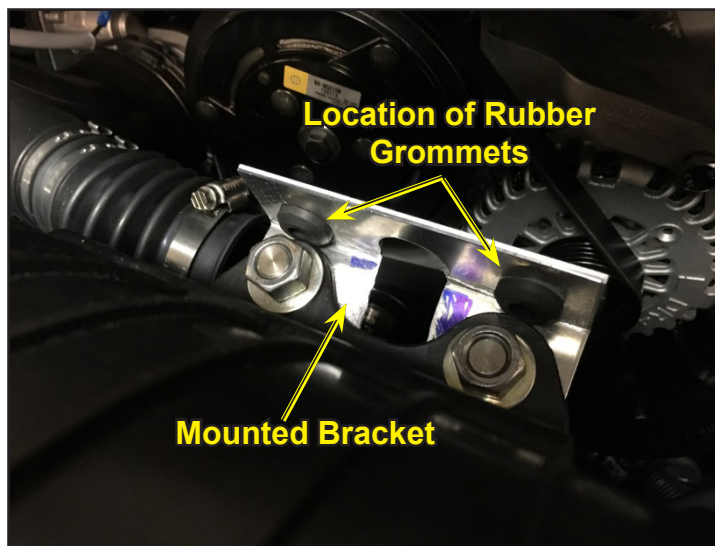

Figure 42. Mount Bracket Using Flat Head Bolts, Washer and Nuts
1. Mount the bracket onto the air cleaner housing, using 2 flat head bolts, 2 washers and 2 nuts, all provided in the kit. Refer to Figure 42 as a guide to the following component order (stack up is from the bottom, up):
2. Place the grommets, which were removed in the procedure on previous page, in the holes adjacent to the nuts (Figure 42).